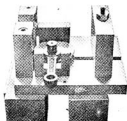

Fig. 4-16-13
- 2) Press the crank pin into one half of the crankshaft, install the crankshaft in the main jig (1), and install the connecting rod on the crankshaft. (Fig. 4-16-13)